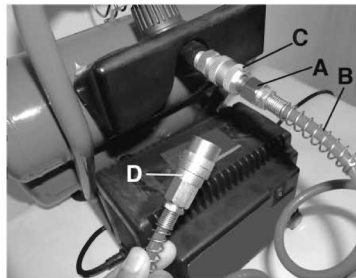

FIGURE 7
- 2) Attach the 1/4in. female fitting (A Fig.7) to one end of the coil hose (B), then connect the female fitting (A) into the quick connect outlet (C) at the back of the compressor, then attach the 1/4in. female quick connect (D) to the other end of the coil hose. Attach optional air tool or supplied accessories. To prevent air leaks, it is recommended to install Teflon Tape (not supplied) on the threads at both ends of the coil hose.